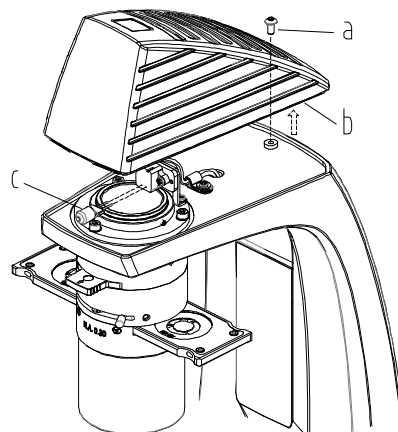

Fig.2 Replace Bulb
2. Before replacing the lamp, first turn off power switch at off position **O**, and unplug it in case of electric shock and burn. If microscope is in use or after use, the bulb and lamp house must be cooled off completely before proceeding, please see **Fig.2**, Loosening screw and replace bad bulb with required bulb. The power supply must be cut off before bulb replacement .